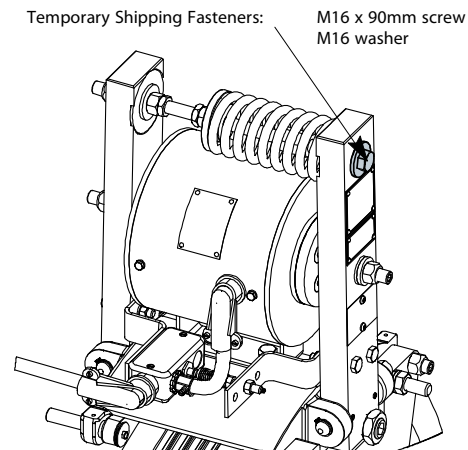

Figure 18 - Temporary Shipping Fasteners
- Verify that the distance from the sheave brake lever to the end of the rod dimension is $1 \frac{1}{2}''$. Correct (if necessary) by adjusting the threaded rod. See Figure 18 on page 24.